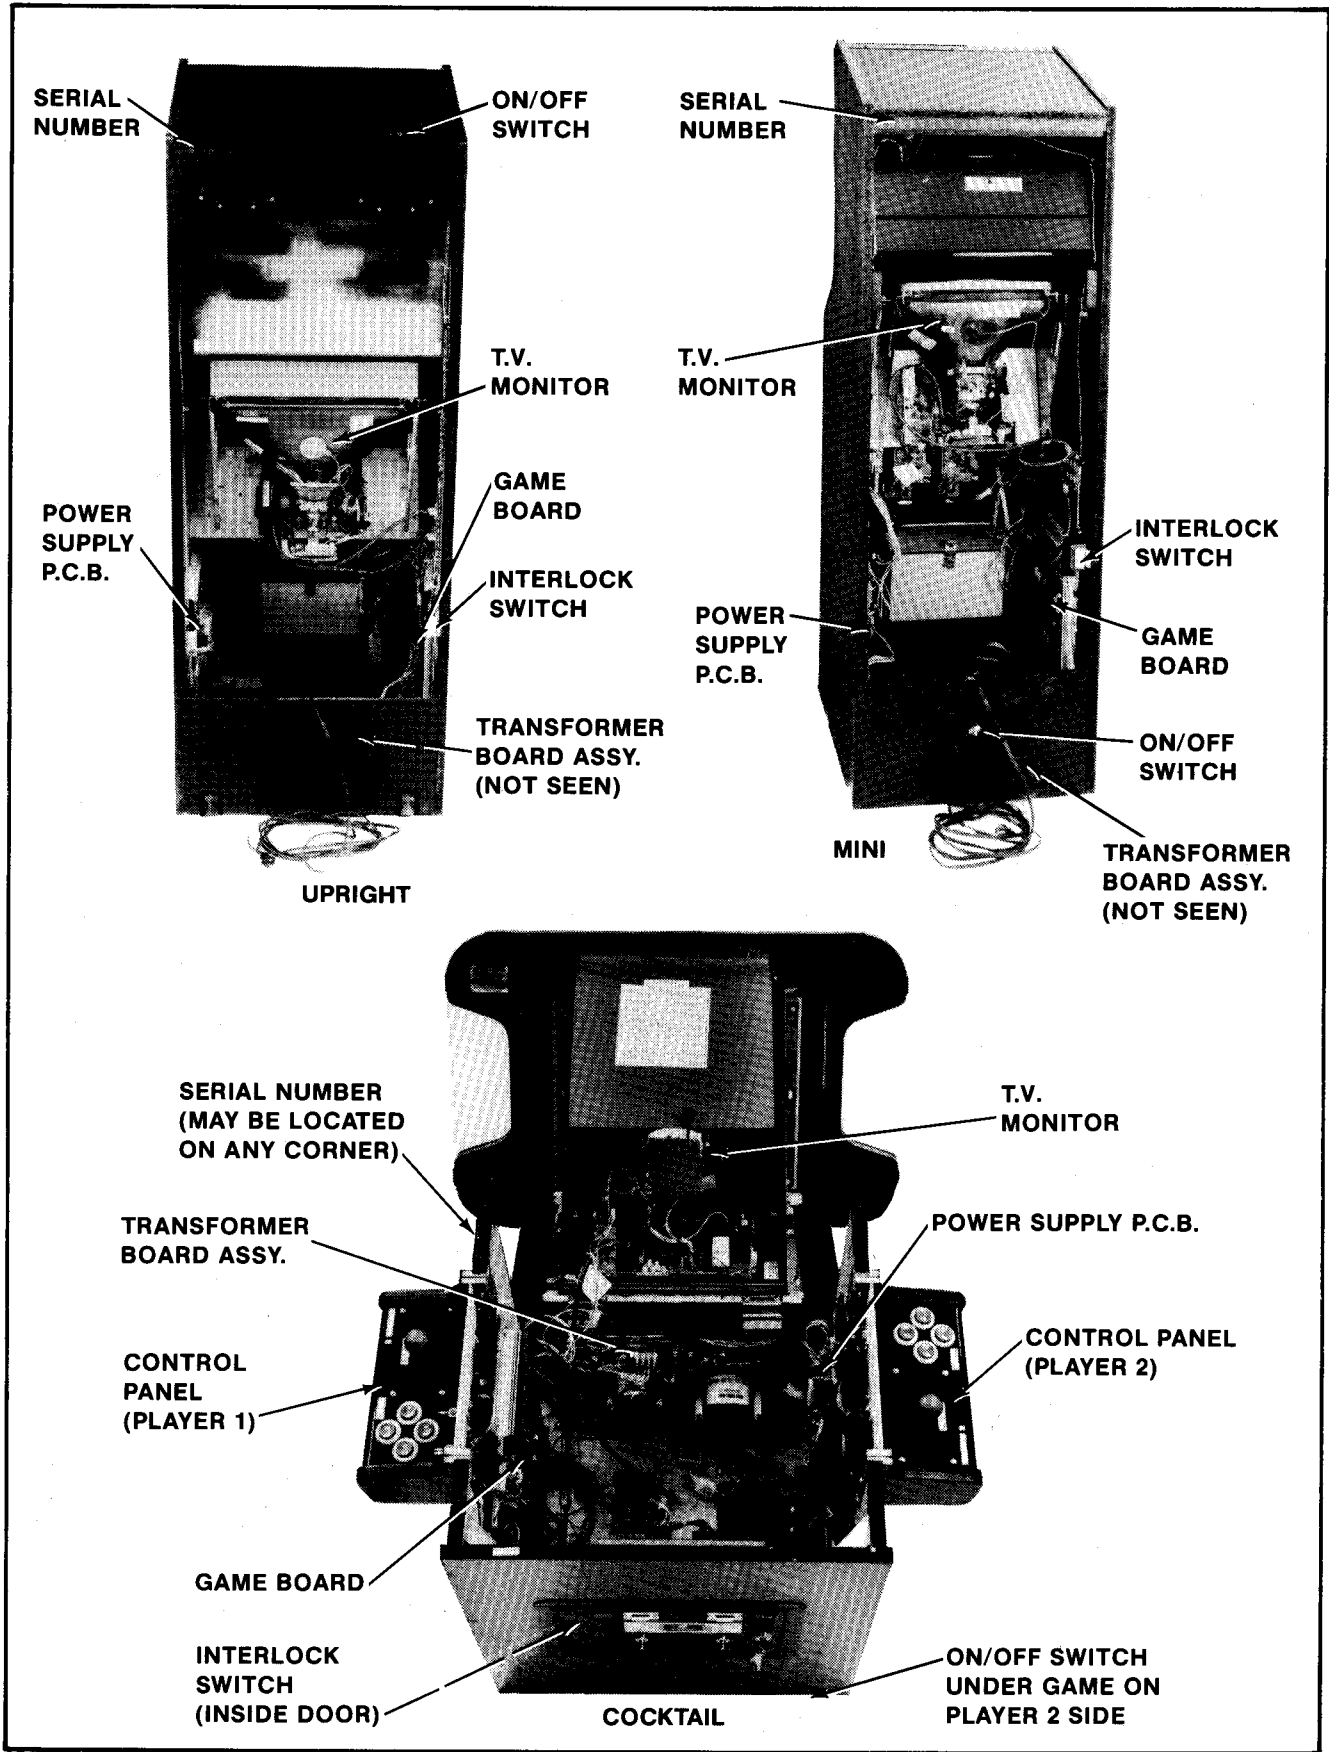

Figure 2-1 Location of Serial No., Interlock Switch, On/Off Switch & Major Sub-Assys.
5. Open the cabinet and inspect the inside of the game for any signs of damage. See Figure 2-1.
- Make sure all printed circuit boards (P.C.B.'s) are firmly seated in their connectors. See Figure 2-1. These connectors are also keyed. The P.C.B.'s will only go into them one way without being damaged.
- Note the location of the game's serial number. See Figure 2-1.
- Check all major subassemblies to be sure they are mounted securely. These are called out in Figures 2-1 & 2-2.
3. Interlock and power ON/OFF switches. See Figure 2-1.
The game ON/OFF switches for all models are located as shown in Figure 2-1. Turn the game on and allow it to warm up a few minutes.